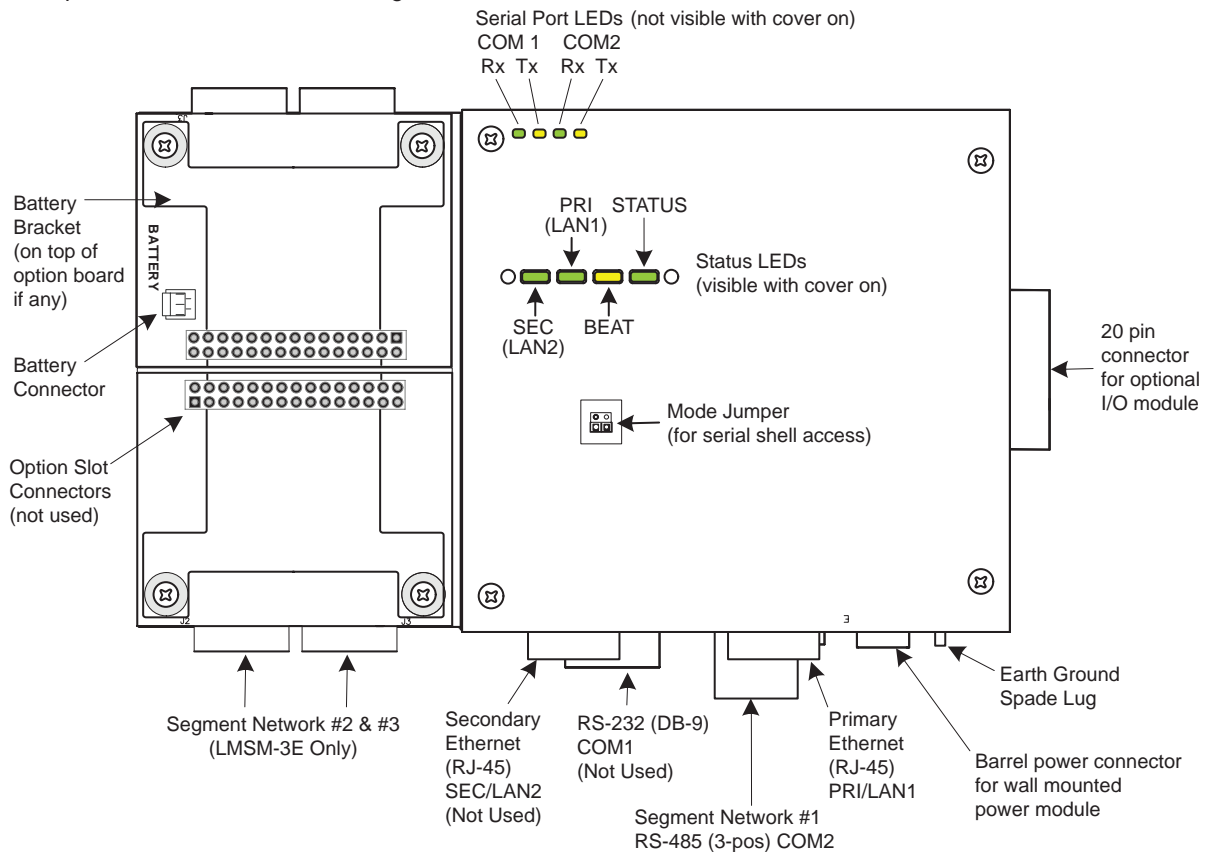
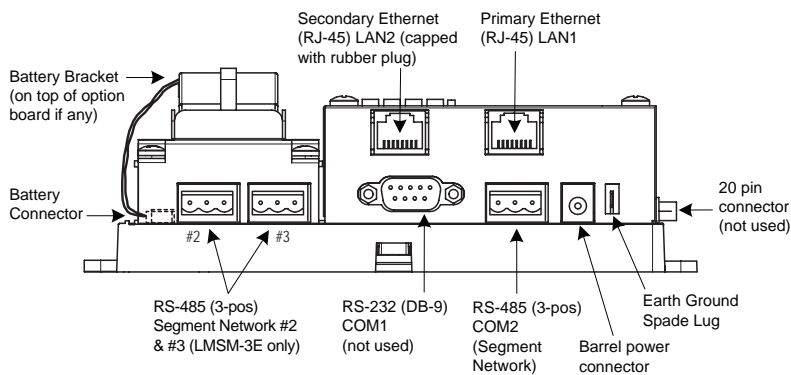

Fig. 4: Board Layout
Fig. 5: Segment Manager Ports and Components
Fig. 4 shows the location of LEDs, option slots, and other features of the Segment Manager with the cover removed. For a side view of communications ports and other features see Fig. 5 & 6.
3. Connect communications cables. See Figures 5 & 6 for ports available on the Segment Manager.
An earth ground spade lug (0.187”) is provided on the base of the Segment Manager for connection to earth ground. For maximum protection from electrostatic discharge or other forms of EMI, connect the supplied earth grounding wire to this lug and a nearby earth ground (see Fig. 4 & 6). Keep this wire as short as possible.
The Segment Manager does not have an on/off switch. To apply power, plug in the Barrel power connector to the Segment Manager (see Fig. 5 & 6 for location).
Ensure power wiring to the Segment Manager is ready—see the “Power Wiring” section above. Refer to Fig. 4 for the locations of the Segment Manager battery connector, status LEDs and Barrel power connector (for LMSM-PS only).
Apply power to the Segment Manager by plugging the power plug into the power connector on the Segment Manager. Refer to Figure 5 for location of the power connector.
The Segment Manager includes several LEDs that can help you determine the status of the unit. They are located in two places as shown in Fig. 4: the top of the Segment Manager (visible through the cover), and for serial ports, on the bottom board (visible only with cover removed). From left to right these LEDs include:
Refer to Fig. 4 for the exact locations of status LEDs on the Segment Manager.